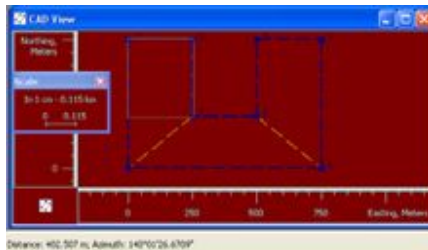

Figure 3-21. Show Distance and Azimuth
- Show azimuth – enable to display an azimuth (from the start point to the end point of the rectangle) in the Status Bar, when the user drags the rectangle on the CAD View (Figure 3-21).